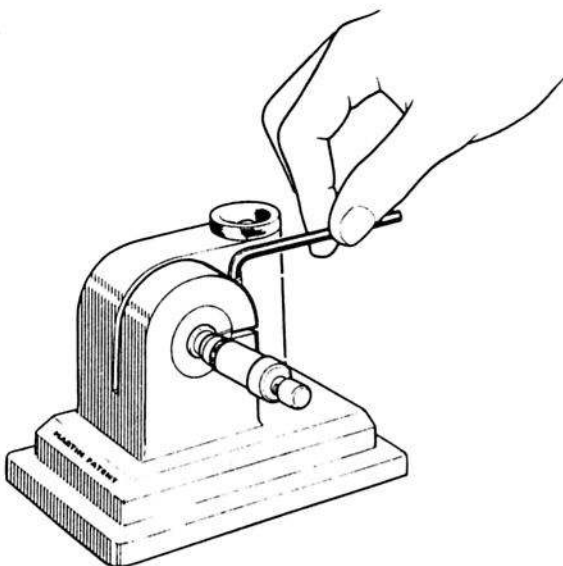

Fig. 3. Adjusting the zero reading
- (2) If it is necessary to re-set for zero, slacken off the Allen screw with the key provided in the box (fig. 3) and lightly tap the micarta housing bush in or out as necessary. When the correct adjustment has been obtained, tighten the Allen screw and re-check for zero as described in sub-para. (1).
6. (1) Check that the correct indicator is fitted in the lid of the transit case.